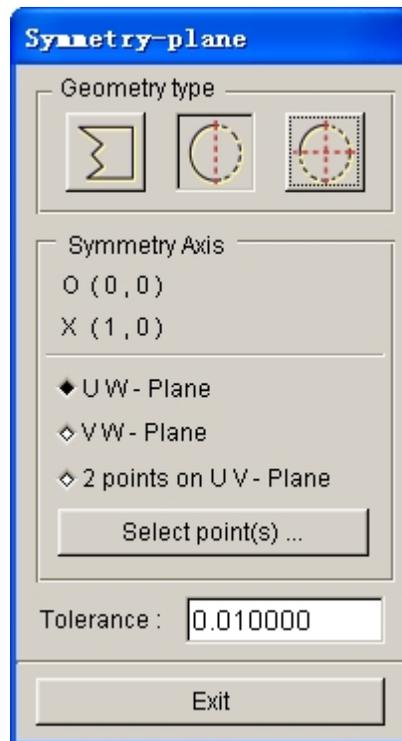
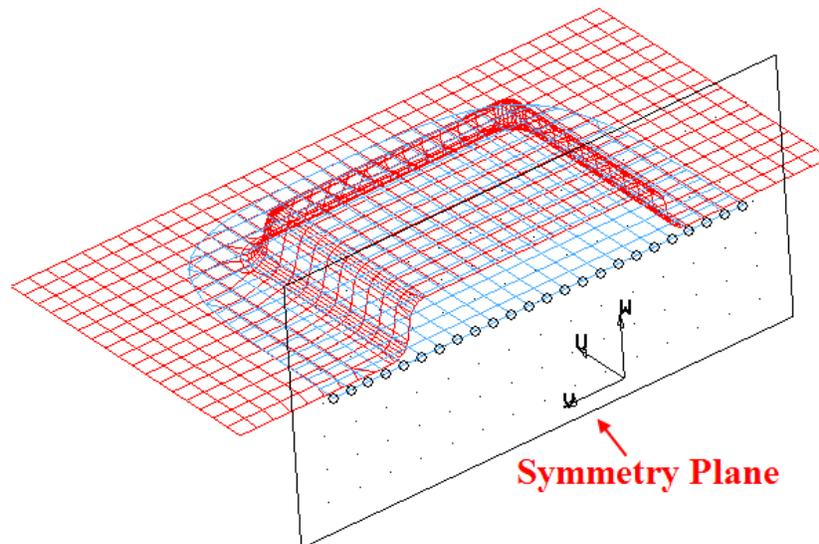

Figure 8.2.35 Define Symmetry Plane
Figure 8.2.36 Define Symmetry
This function allows the user to define  $\frac{1}{2}$  symmetrical blank. The interface is illustrated in Figure 8.2.35.
**UW-PLANE:** A plane parallel to WCS's UW plane is chosen as symmetry plane. The user specifies the location of plane by using Select Points function illustrated in Figure 8.2.35. The position of symmetry plane is displayed in O (X, Y), while the direction of symmetry is displayed in X (1, 0). A vector is displayed in WCS's UW plane on the screen to show the symmetry plane. See Figure 8.2.36 for more details.
**VW-PLANE:** A plane parallel to WCS's VW plane is chosen as symmetry plane. The user specifies the location of plane by using Select Points function illustrated in Figure 8.2.35. The position of symmetry plane is displayed in O (X, Y), while the direction of symmetry is displayed in X (0, 1).